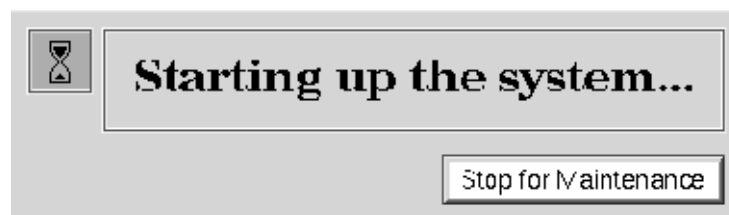

Figure 2-33 System Startup Notifier
3. As the system comes up, you see this notifier (see Figure 2-33):